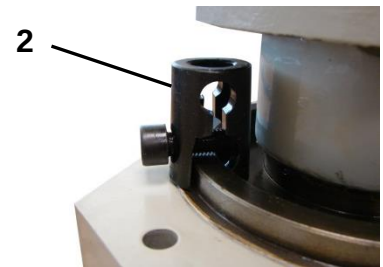

figure 10
10. If you wish to do repeat bends at the same angle, lock the material stop (**#2**) to the base ring as shown in (fig. 10).